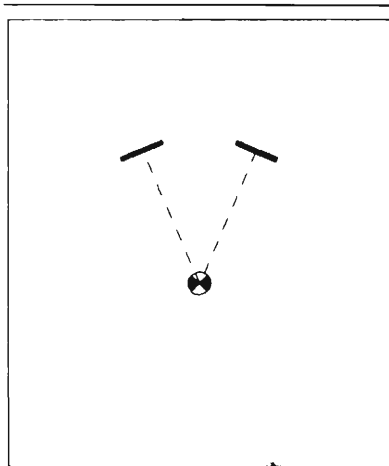

FIGURE 14-11: Musicians appear close to you in the concert hall.
- A wide listening angle and close focus transport you to “Row A” in a concert hall (Fig. 14-11).